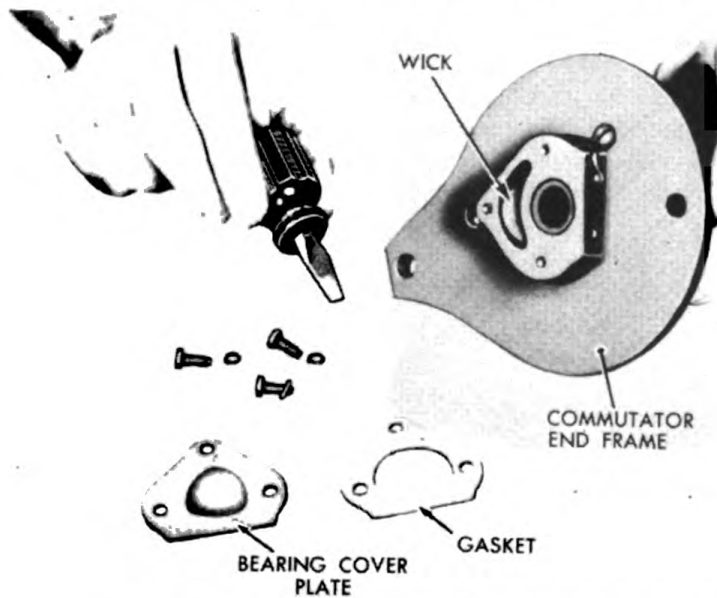

Figure 260. Removing Bearing Cover Plate.
- a. Remove the bearing cover plate by detaching three screws and a lockwasher. Remove the gasket. See figure 260.
- d. Before attaching the end cover plate and gasket with three screws and lockwashers, see figure 260, see that the oil wick is in place.